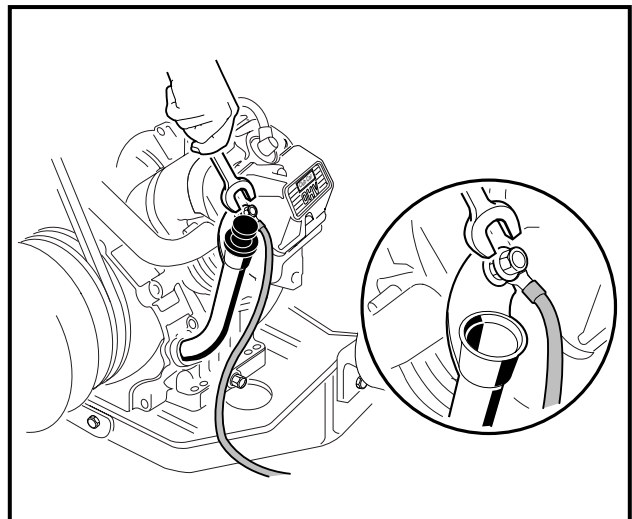

Figure 16-53 Engine Ground
27. Attach the ground wire to the mounting screw on the oil filler tube mounting bracket and tighten to 50 in-lb (5.7 N·m) **(Figure 16-53, Page 16-21)**.